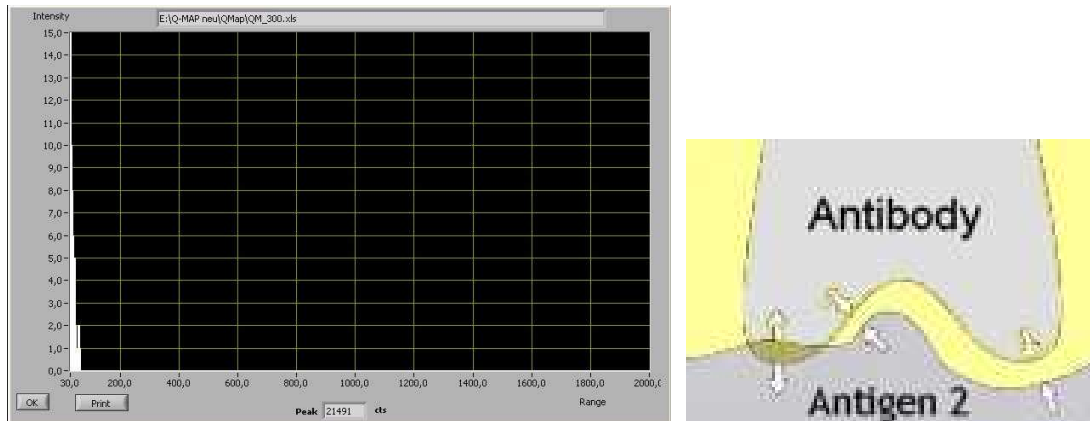

fig. 1
1. The evaluated signals show only particles which diameters are smaller than the related filter size (figure 1).